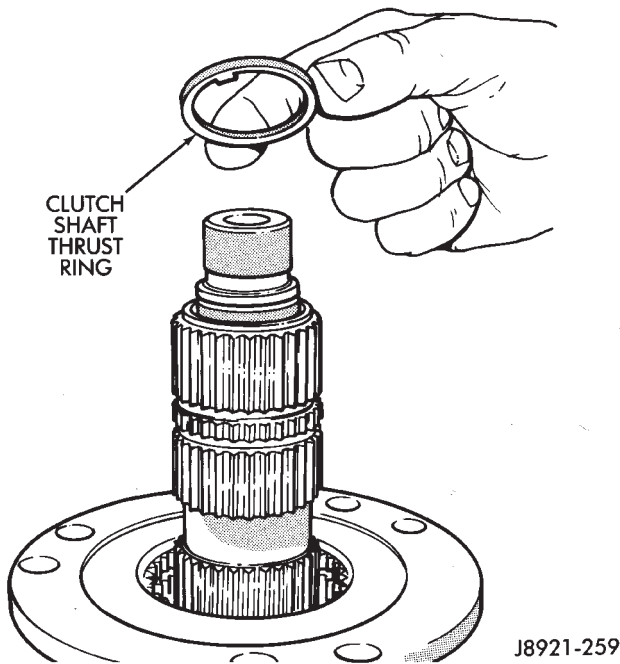

Fig. 20 Removing Clutch Shaft Thrust Ring
(32) Remove clutch shaft thrust ring (Fig. 20).